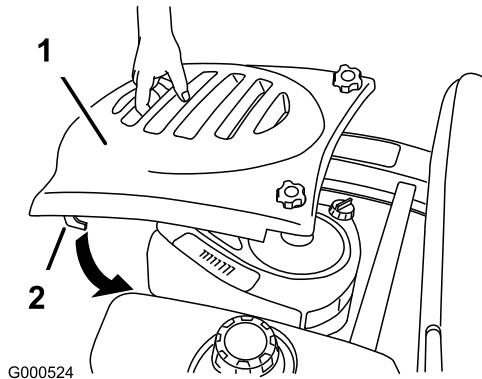

Figure 18
- To install the hood, put the hooks into the slots and slide forward (Figure 18).